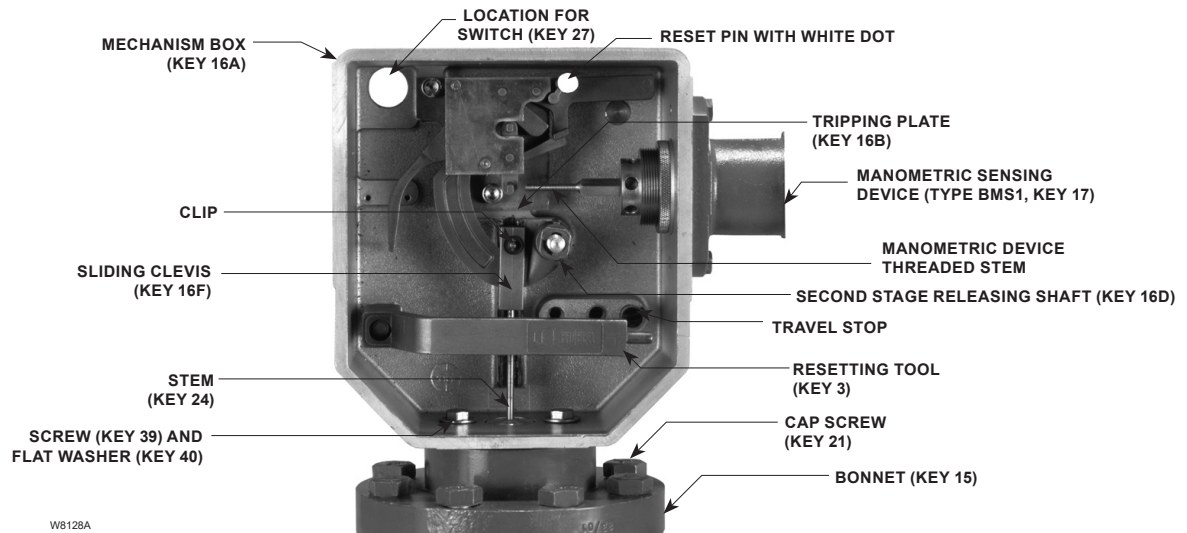

Figure 8. Type OS2 Internal Parts
The reset pin with white dot is at the top center location of the mechanism box, see Figure 8. Push this pin away from the valve body. This action will lock in the detection stage (see step A in Figure 7).
3. Remove the travel stop (refer to Figure 8).
4. Remove the two cap screws (key 39) holding the mechanism box (key 16) to the bonnet (key 15). Disconnect the stem (key 24) from the sliding clevis (key 16F) and remove the mechanism box.
5. Remove the nuts (key 23, for NPS 4 and 6 / DN 100 and 150 only) or cap screws (key 21) holding the bonnet (key 15) to the body (key 1). Due to the force created by the main spring (key 12), take care when removing the bonnet.
6. The bonnet (key 15), valve plug (key 5H) (with equalizer bypass, key 5A in NPS 1 through 6 / DN 25 through 150 body sizes), main spring (key 12) and small stem bushing (key 24) will lift out of the body as a unit. Set the unit on a hard flat surface with the valve plug (key 5H) at the bottom and press down on the bonnet (key 15) to compress the main spring (key 12), allowing the stem to be unhooked from the coupling head.
7. Use a spanner wrench (a wrench is supplied with one of the replacement parts kits) to unscrew the equalizer bypass (key 5A) from the valve plug (key 5H). The NPS 1 / DN 25 body size equalizer bypass (key 5A) holds the plug O-ring (key 5J) to the valve plug (key 5H). On the NPS 2 and 3 / DN 50 and 80 body sizes, the equalizer bypass (key 5A) holds the plug disk (key 5N) and the plug O-ring (key 5J) to the valve plug (key 5H). The NPS 4 and 6 / DN 100 and 150 body sizes valve plug disk and valve plug are held together by six cap screws. On these body sizes, remove the cap screws and valve plug disk to replace the plug O-ring.